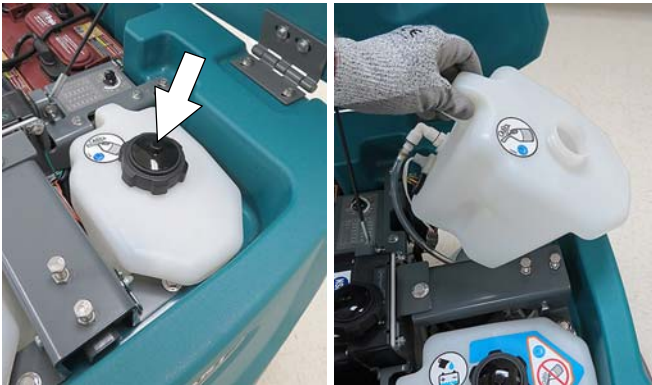

FIG. 150
3. Pour 1 gallon / 4 liters of propylene glycol based recreational vehicle (RV) antifreeze into the solution tank.
Models equipped with optional Severe Environment detergent tank - Lift tank from machine and empty the detergent from tank (Figure 150). Return tank. Pour a 1/4 gallon / 1 liter of propylene glycol based recreational vehicle (RV) antifreeze into the detergent tank.